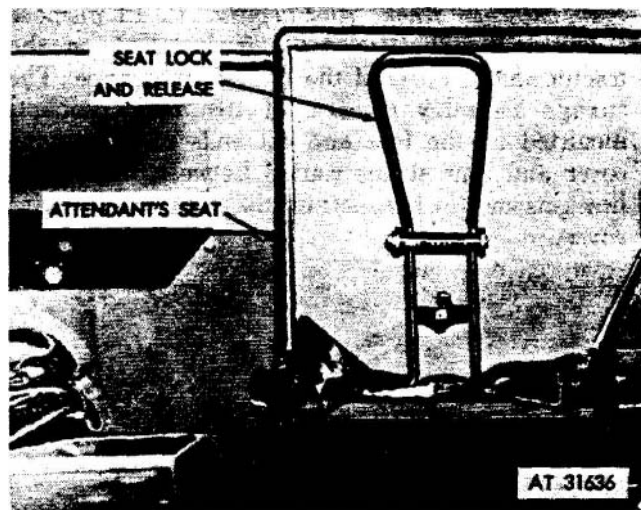

Figure 1-18. M792 ambulance, attendant's seat.
k. *Attendant's Seat.* A seat is provided for the use of an attendant (fig 1-18). The seat is installed on the left side of the forward bulkhead of the carrier and is provided with a safety belt. The seat may be raised to a vertical position (out of use) and locked in that position by means of the handle assembly attached to the bottom of the seat. Depressing the handle allows the seat to be lowered to a horizontal position for use.